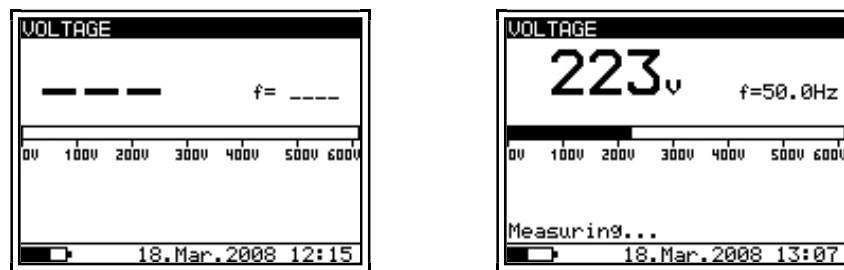

Fig. 10. Voltage function display states
Selecting this function displays the following states (initial state and state with results after completion of the measurement). See fig. 10 below.
- The result (see the right picture in Fig 10) can optionally be saved by pressing the MEM key twice, see the section of Store, Recall and Clear Operation.